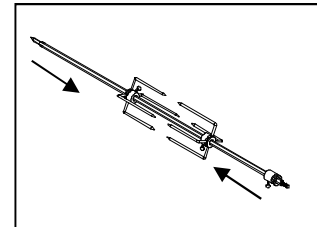

Fig.3
3. Place the rotisserie prongs into the rotisserie rod with caution. Then place shaft collar into the right end of the rotisserie rod. (See Fig.3)